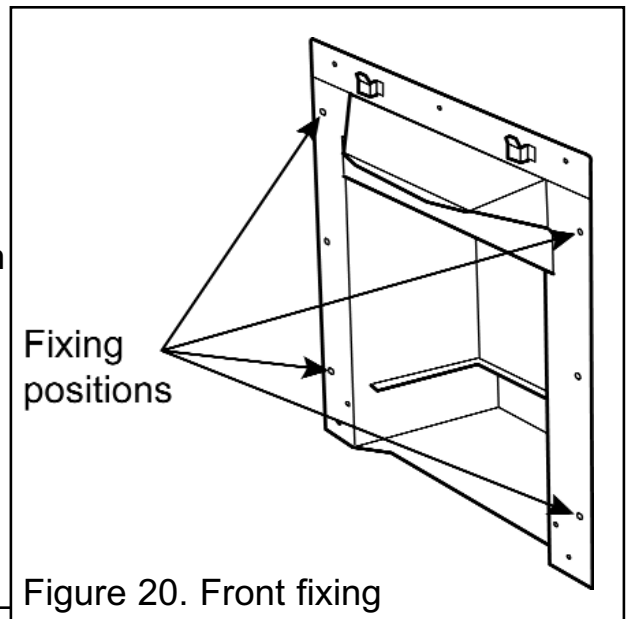

Figure 20. Front fixing
3. Mark the fireplace front surround through the four fixing holes in the side flanges of the convection box (See figure 20).